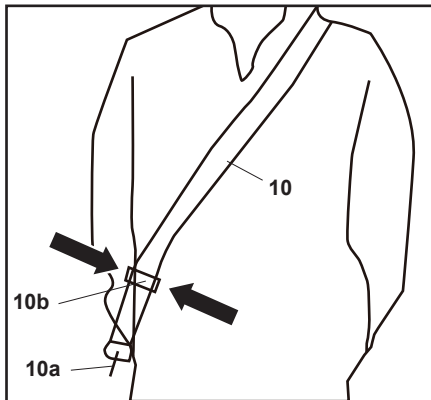

Fig. 3
1. Place the harness (10) so that it runs over the left shoulder, crossing the chest and back. The securing clip (10a) must be located at the right hip. The quick release (10b) must be in front (Fig. 3).
5. In case of emergency press two clips of the quick release (10b). The product together with the securing clip (10a) will be released automatically from the body because of the weight of the product (Fig. 3).